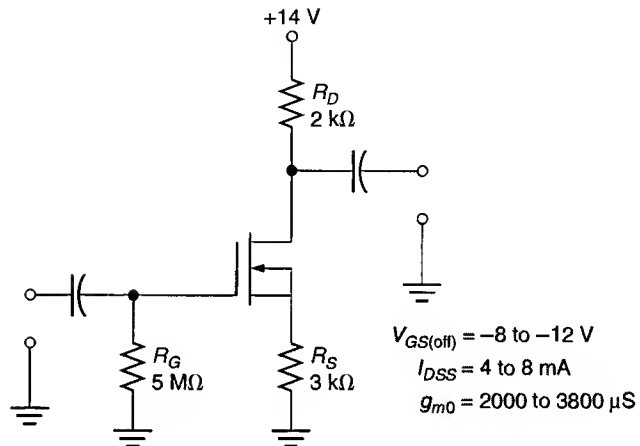

FIGURE 13.38
20. Determine the range of A_v values for the circuit shown in Figure 13.38.